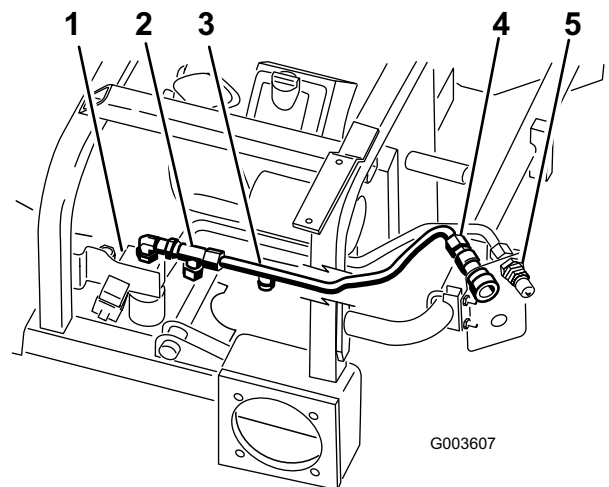

Figure 15
4. Position hydraulic line number 2 into the machine as shown in Figure 15.
5. Install hydraulic line number 2 to the tee fitting assembled to the 90 degree elbow and the top of the valve (Figure 15).
6. Install hydraulic line number 2 to the upper female coupler (Figure 15).